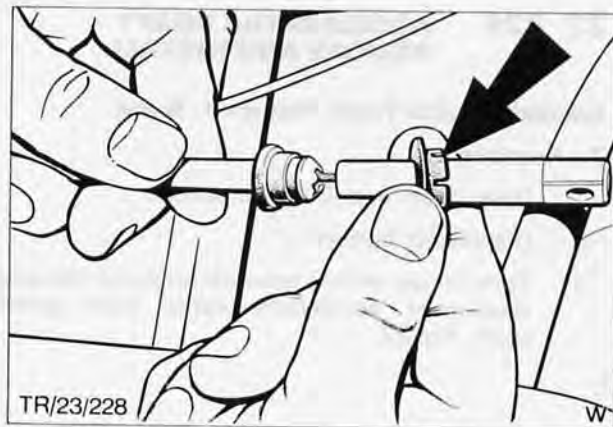

Fig. 85. Removing retaining grommet from outer cable
- Using a screwdriver prise off retaining grommet from outer cable, Fig. 85.